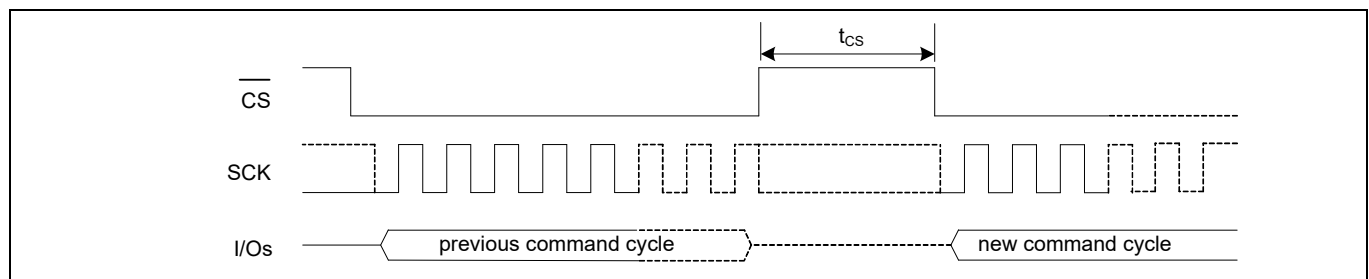

Figure 116 Chip deselect (\overline{CS} HIGH) - t_{CS} timing
24. t_{CS} is the minimum chip deselect (\overline{CS} HIGH) time before the new command cycle starts in a specific SPI mode (SPI, DPI or QPI). This parameter ensures that previous operation is successfully completed before the host starts a new command cycle. Refer to **Figure 116**.
24. t_{CS} is the minimum chip deselect ($\overline{\text{CS}}$ HIGH) time before the new command cycle starts in a specific SPI mode (SPI, DPI or QPI). This parameter ensures that previous operation is successfully completed before the host starts a new command cycle. Refer to Figure 116.
28. t_{CS} is the minimum chip deselect (\overline{CS} HIGH) time before the new command cycle starts in a specific SPI mode (SPI or QPI). This parameter ensures that previous operation is successfully completed before the host starts a new command cycle. Refer to **Figure 116**.